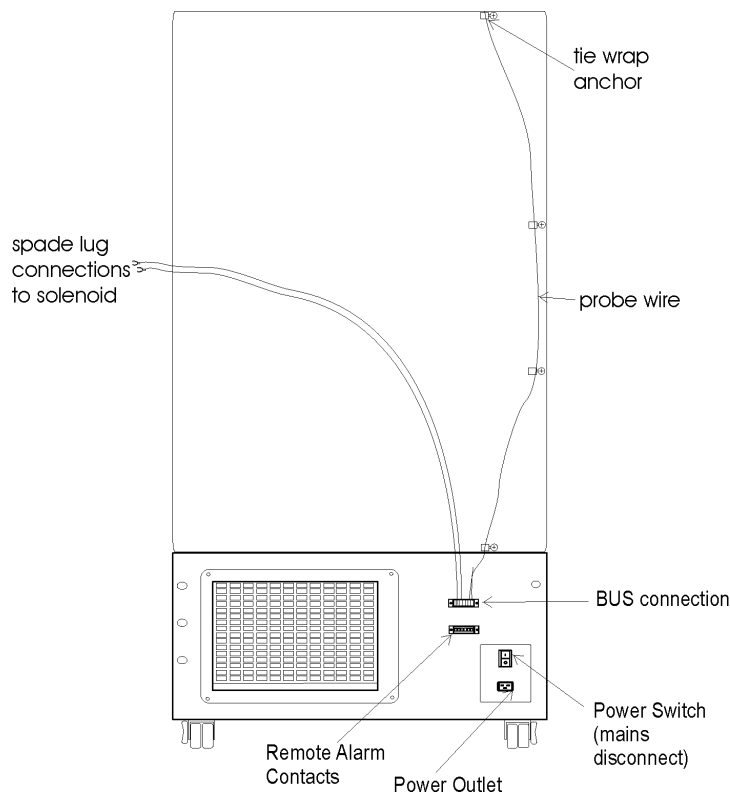

Figure 5-5
13. Remove the four screws on the freezer back panel and use them to mount the tie wrap anchors as shown in Figure 5-5. Secure the probe wire with tie wraps.